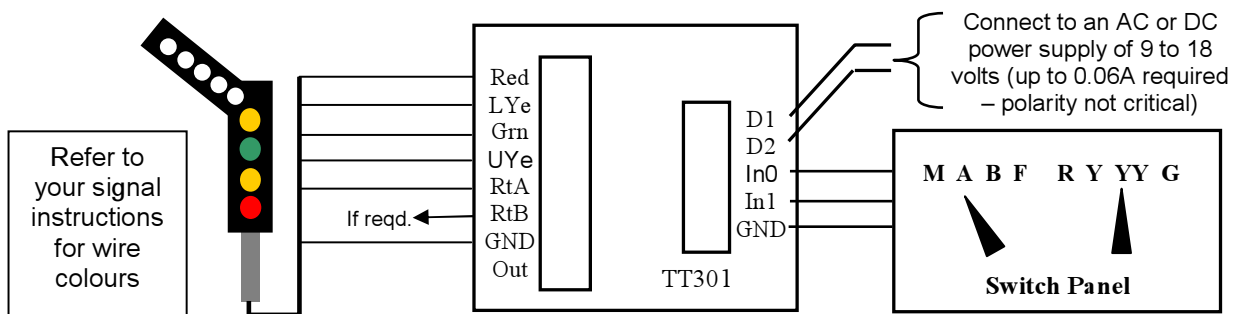

Figure 3 : Non DCC (analogue) wiring for the TT 301
As shown in Fig. 3, a power supply must be connected to the "D1 and D2" terminals. It may be an *alternating current* (AC) or *direct current* (DC) type and it may be connected either way round (even if DC). The characteristics of the power supply must be:-
Using a switch panel (or a home-constructed version) - connected as shown in Fig. 3 - you simply rotate the switches to the desired aspect, route or flashing indication. Note, however, that a RED aspect will not flash and will extinguish the route indicator (in accordance with British signalling practice).